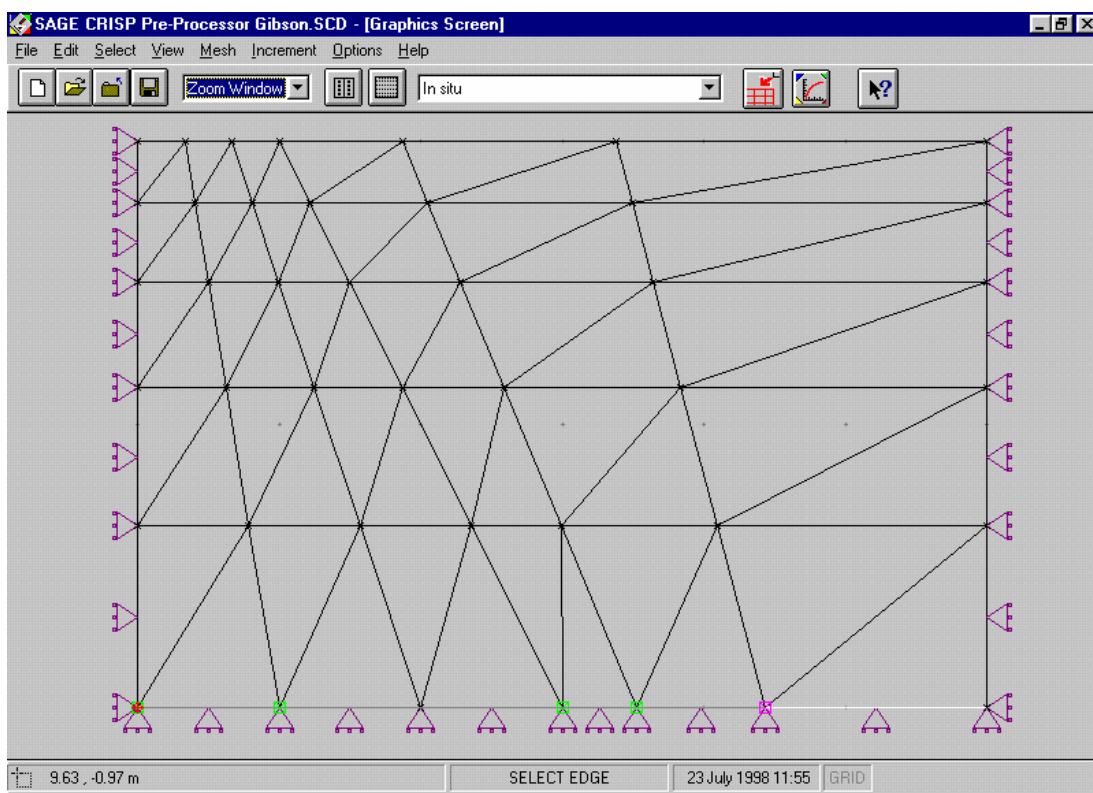

Figure 4-22: In Situ Fixities Fully Defined
- Step 13** Click on **OK** to exit, once you have finished. The Graphics Window should look similar to Figure 4-22.